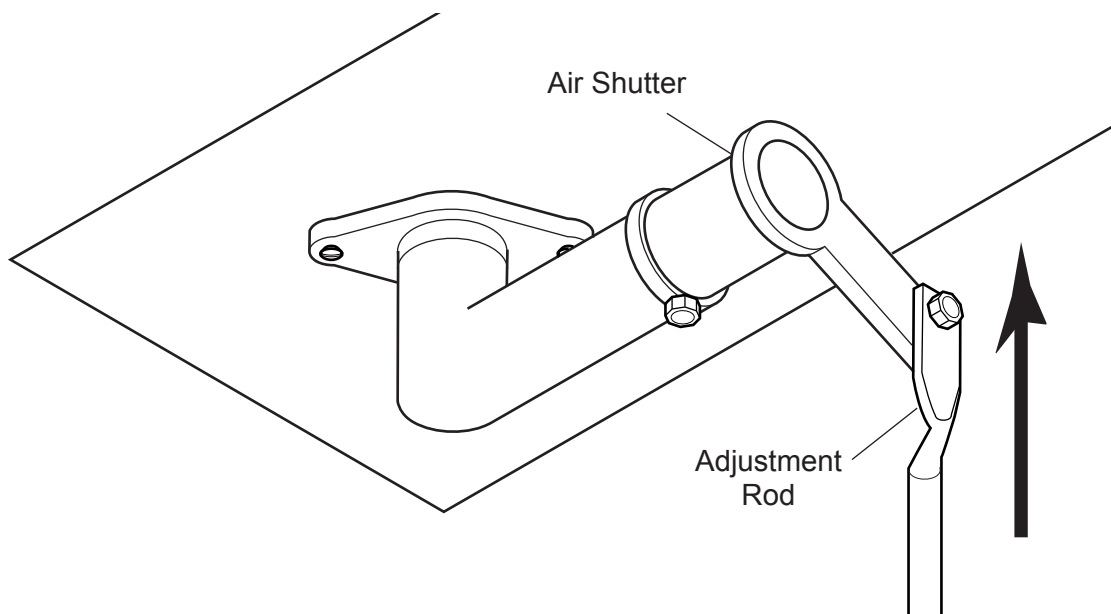

Figure 47 - Push Adjustment Rod Up to Close Air Shutter
- To increase air mixture, pull down the adjustment rod located beneath the stove. This opens the shutter more and will stop sooting. *See Figure 47.*